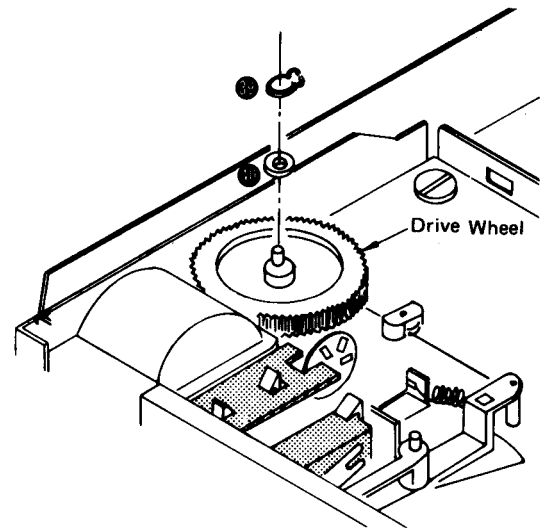

Fig. 14
3. Detach the arm drive wheel "C" ring ③⑨ and washer ④⑩, and remove the drive wheel. (See Fig. 14)